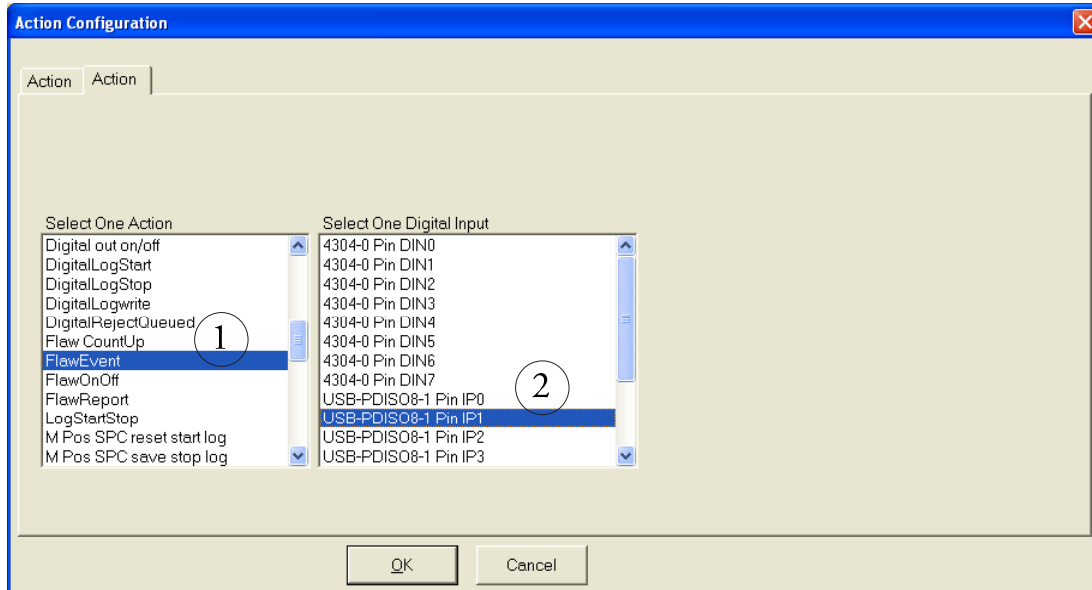

Figure 41. Actions tab.
- 2.2 From the Select One Action column, select FlawEvent (*Part 1 in Figure 41*).
- 2.3 From the Select One Digital Input column, select USB-PDISO8-1 Pin IP1 (*Part 2 in Figure 41*).